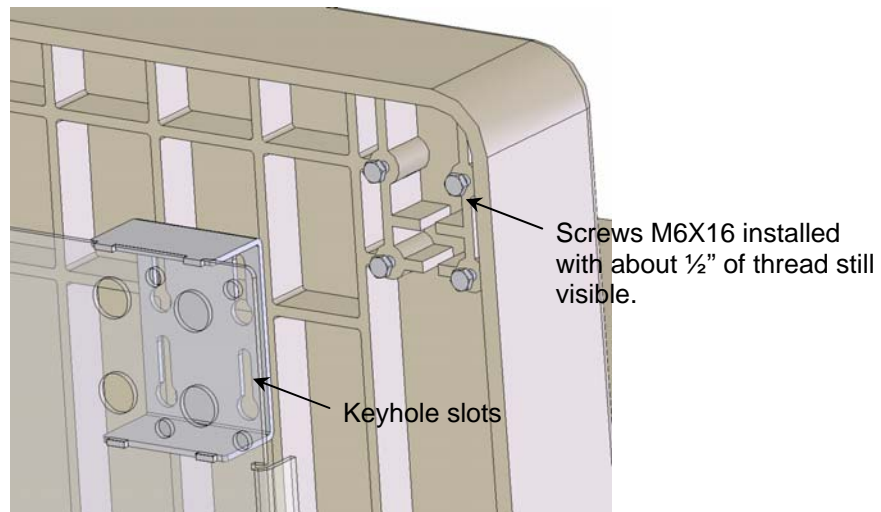
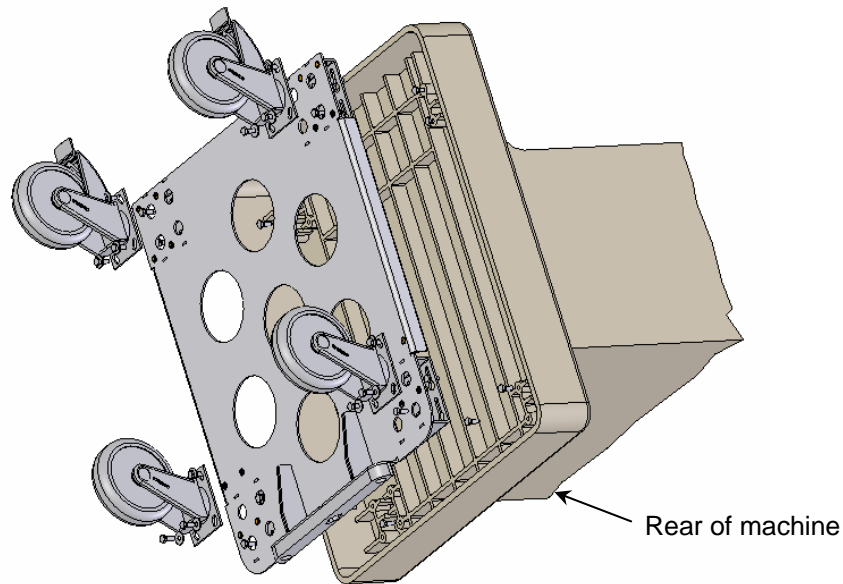

Figure 1 – Keyholes Slots and screws
Figure 2 – Base Plate Positioning
5. Once the casters and brake system has been removed locate and install the sixteen (16) M6X16 screws (LMW P/N 3049412) into the threaded holes used for the original casters. Thread them in so that about ½” of thread remains visible (see Figure 1).
6. Install the AquaDock caster plate such that the heavy bar faces out the rear of the machine (see Figure 2). The caster plate has keyholes type slots (see Figure 1). Align all of the screw heads into the keyholes and slid the caster plate towards the rear of the machine.